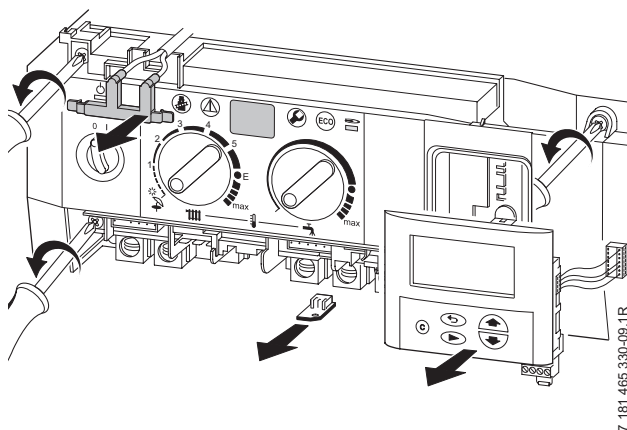

Fig. 52
- Remove two top fixing screws from the control box. Refer to fig. 52.